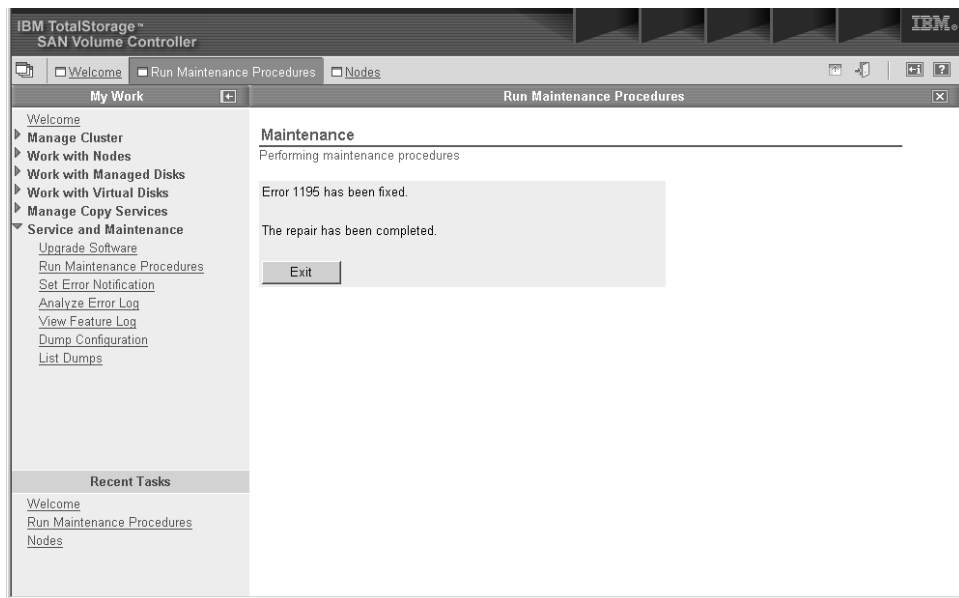

Figure 54. Example of what is displayed when the repair is completed
- Click OK to mark the error as fixed in the error log to prevent this instance of the error from being listed again. This action displays message similar to that shown in Figure 54 indicating that the repair has been completed.